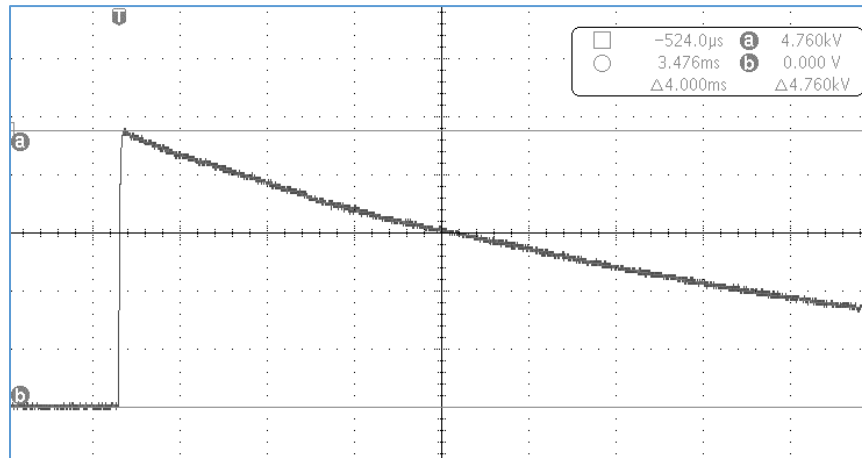

Figure 5 Vpeak = 4.76kV with 500 $\mu$ H inductor
- a. Vpeak about 4.76kV, see figure 5 (When selected inductor is 500 $\mu$ H).